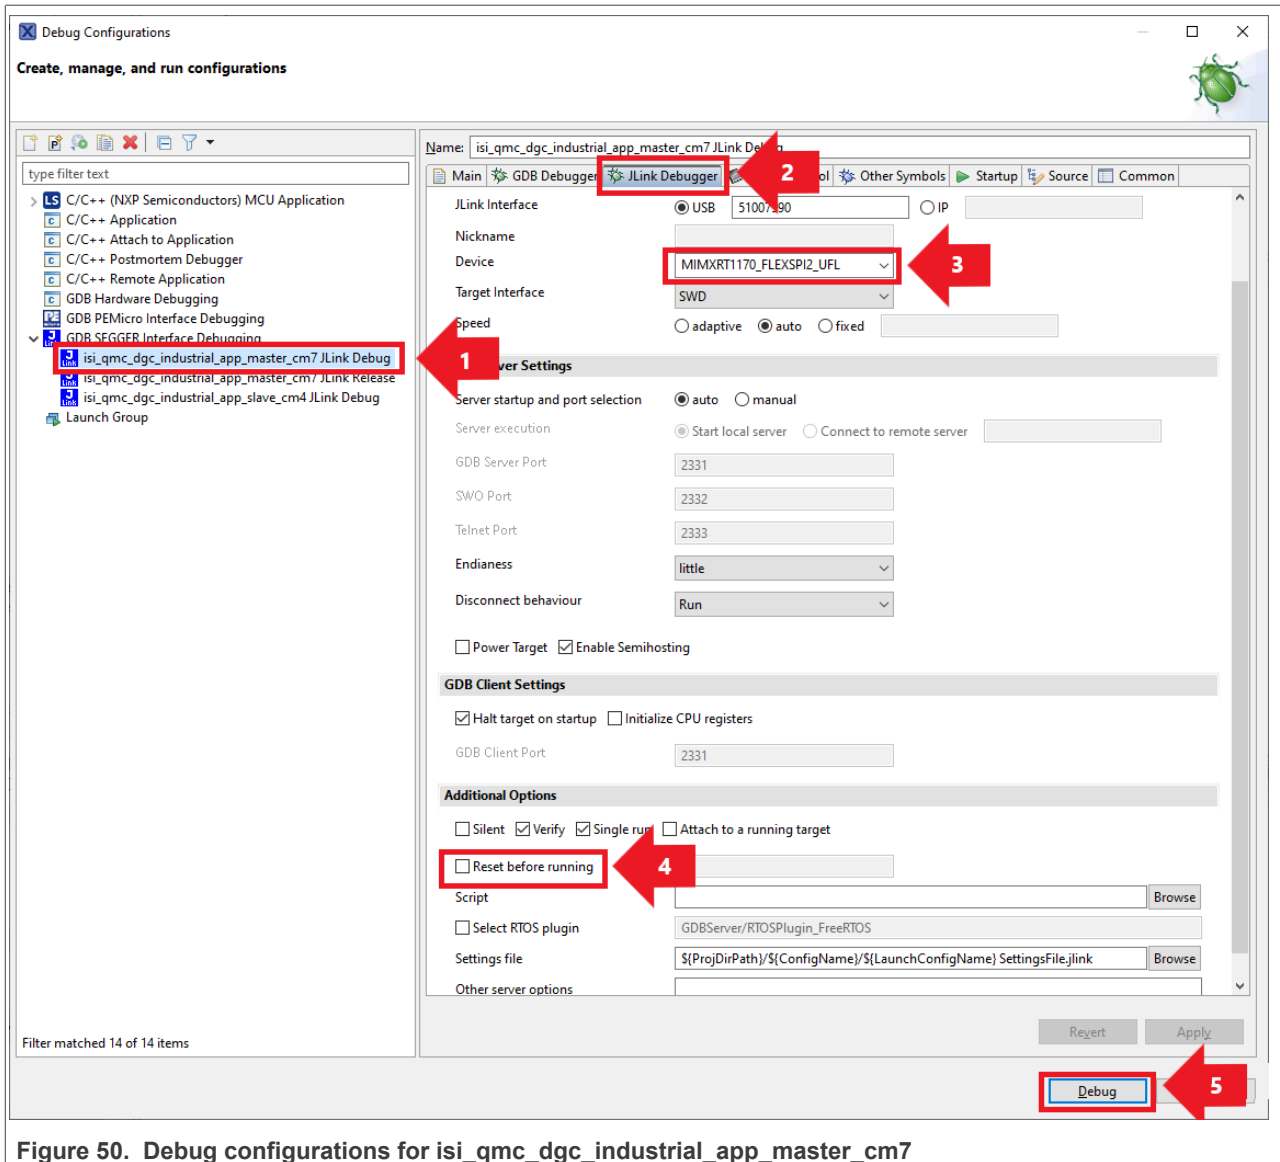

Figure 50. Debug configurations for isi\_qmc\_dgc\_industrial\_app\_master\_cm7
5. Follow the steps shown in Figure 50 to start the debugging process:
- (1) Select the `isi_qmc_dgc_industrial_app_master_cm7` Debug configuration under *GDB SEGGER Interface debugging*;
- (2) Open the *J-Link debugger* tab;
- (3) Check that the *J-Link interface settings* are set as in Figure 50. In particular, the *device* field should have the value `MIMXRT1170_FLEXSPI2_UFL`;
- (4) Make sure to uncheck the *Reset before running* option.
- (5) Click the *debug* button to start debugging the software. Wait a few seconds for MCUXpresso to load the software image in the daughter card.